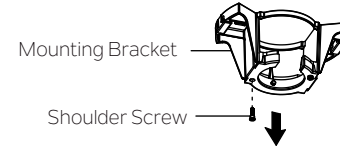

Fig.13
Step 1. Remove one of the two shoulder screws in the mounting bracket. Loosen the second shoulder screw without fully removing it. (Fig. 13)